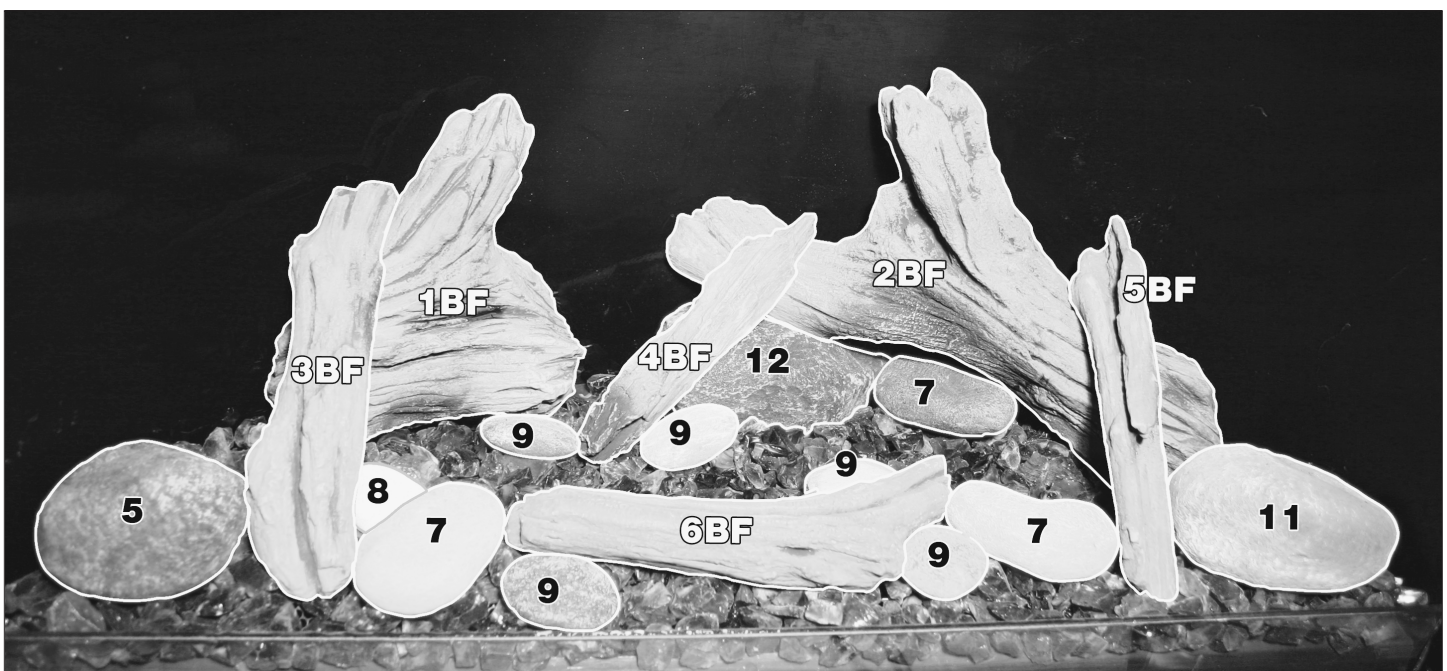

Figure 1, Models #DEL-36S and #BAY-41-G
5. Place the rest of the rocks as shown in Figure 1.
6. Place logs #3BF-#6BF as shown in Figure 1.
6. Place the rest of the rocks as shown in Figure 1.
7. Place logs #3BF-#6BF as shown in Figure 1.